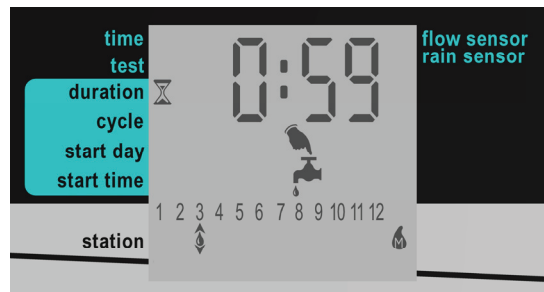

Figure 19: Test Sequence Screen
2. Press and hold **+** until the Test Sequence screen is displayed (Figure 19). The controller automatically begins operating the master station and each of the stations in sequence, for 60 seconds each. The currently operating station is marked with the **◆** icon, and the screen displays the number of seconds remaining for that station's operation test.